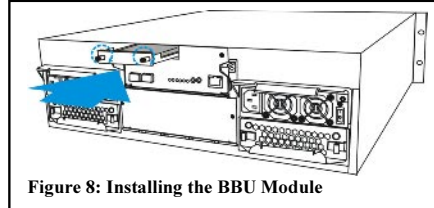

Figure 8: Installing the BBU Module
2. Align the BBU module with the BBU module slot. Gently insert the BBU module until the back of the BBU module reaches the end of the slot. Secure the BBU module to the chassis by tightening the two (2) retention screws on the back of the BBU module. (See Figure 8)